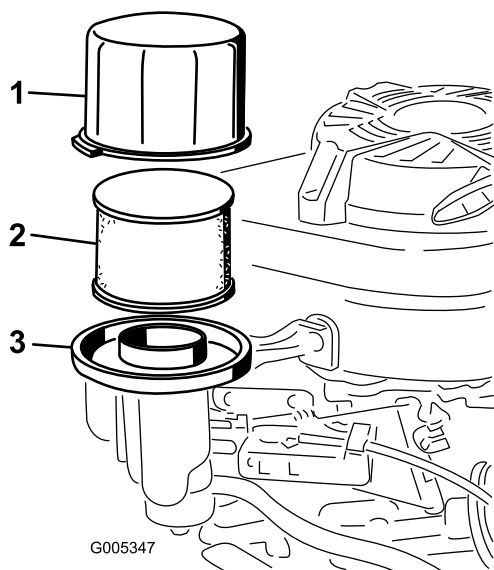

Figure 23
3. Remove the cover and clean it thoroughly (Figure 23).
4. Remove the foam pre-cleaner and the paper-air filter from the air-cleaner base (Figure 23)